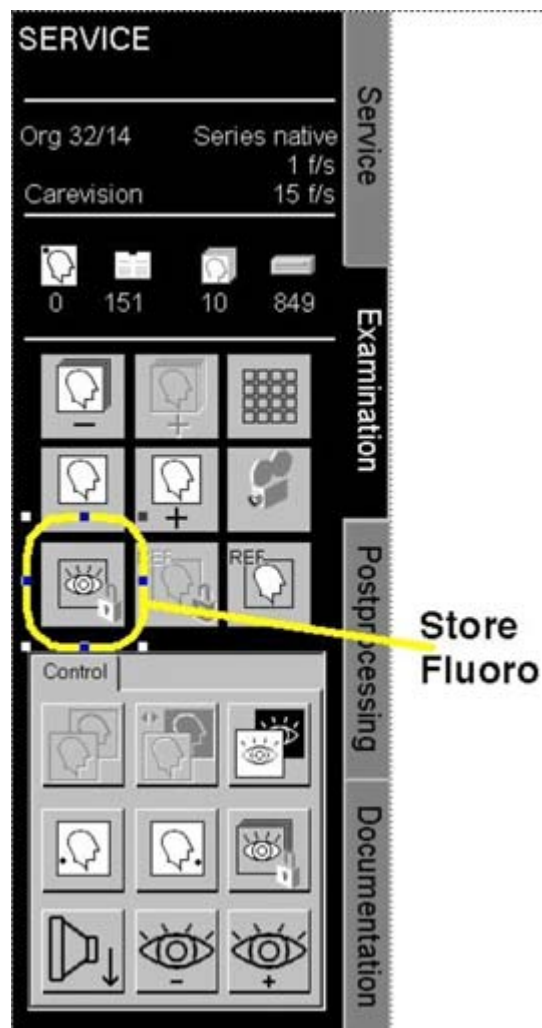

Fig. 3:
- Store the LIH image via the **Store Fluoro** button for evaluating a fluoro image (Fig. 3 / p. 13).